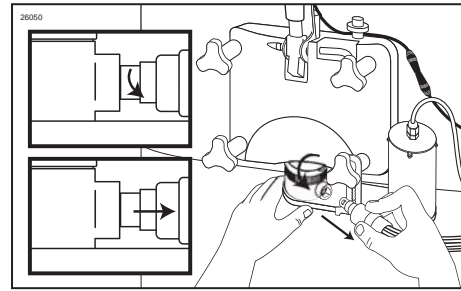

Figure 22
2. Rotate the 9-Tube Assembly coupler until it unlocks and is able to slide out of the Injector Head syrup line opening. (See Figure 22.)